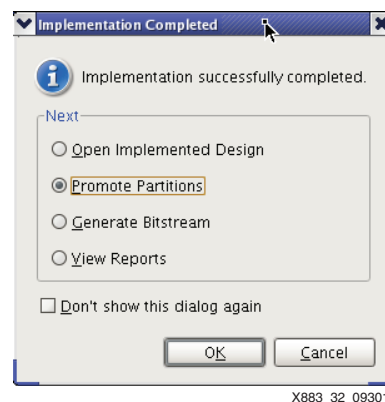

Figure 32: Implementation Completed Window
3. Select **Promote Partitions** and click **OK** in the Implementation Completed window (see Figure 32).